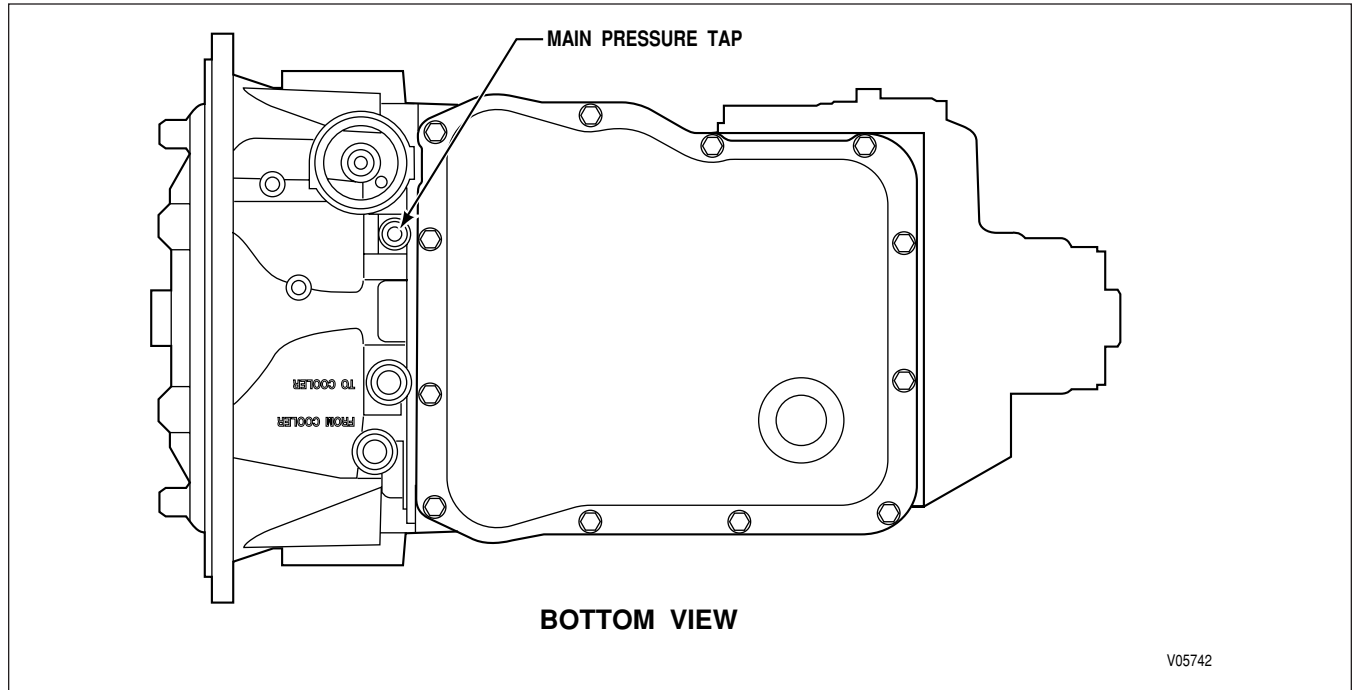

Figure B-1. Main Pressure Check Point
1. Connect a 0–2070 kPa (0–300 psi) oil pressure gauge at the main pressure tap (refer to Figure B-1). Use Allison DOC™ to check engine rpm. See Table B-1 for main pressure levels.